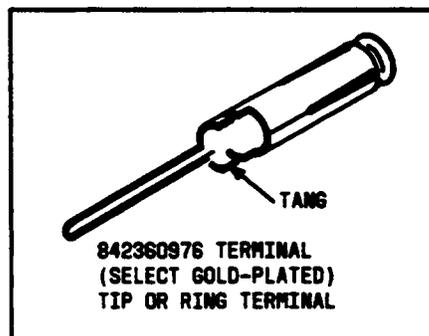

Figure 12. Tip or Ring Terminal
7.09 To replace a tip or ring terminal (Figure 12), proceed as follows: